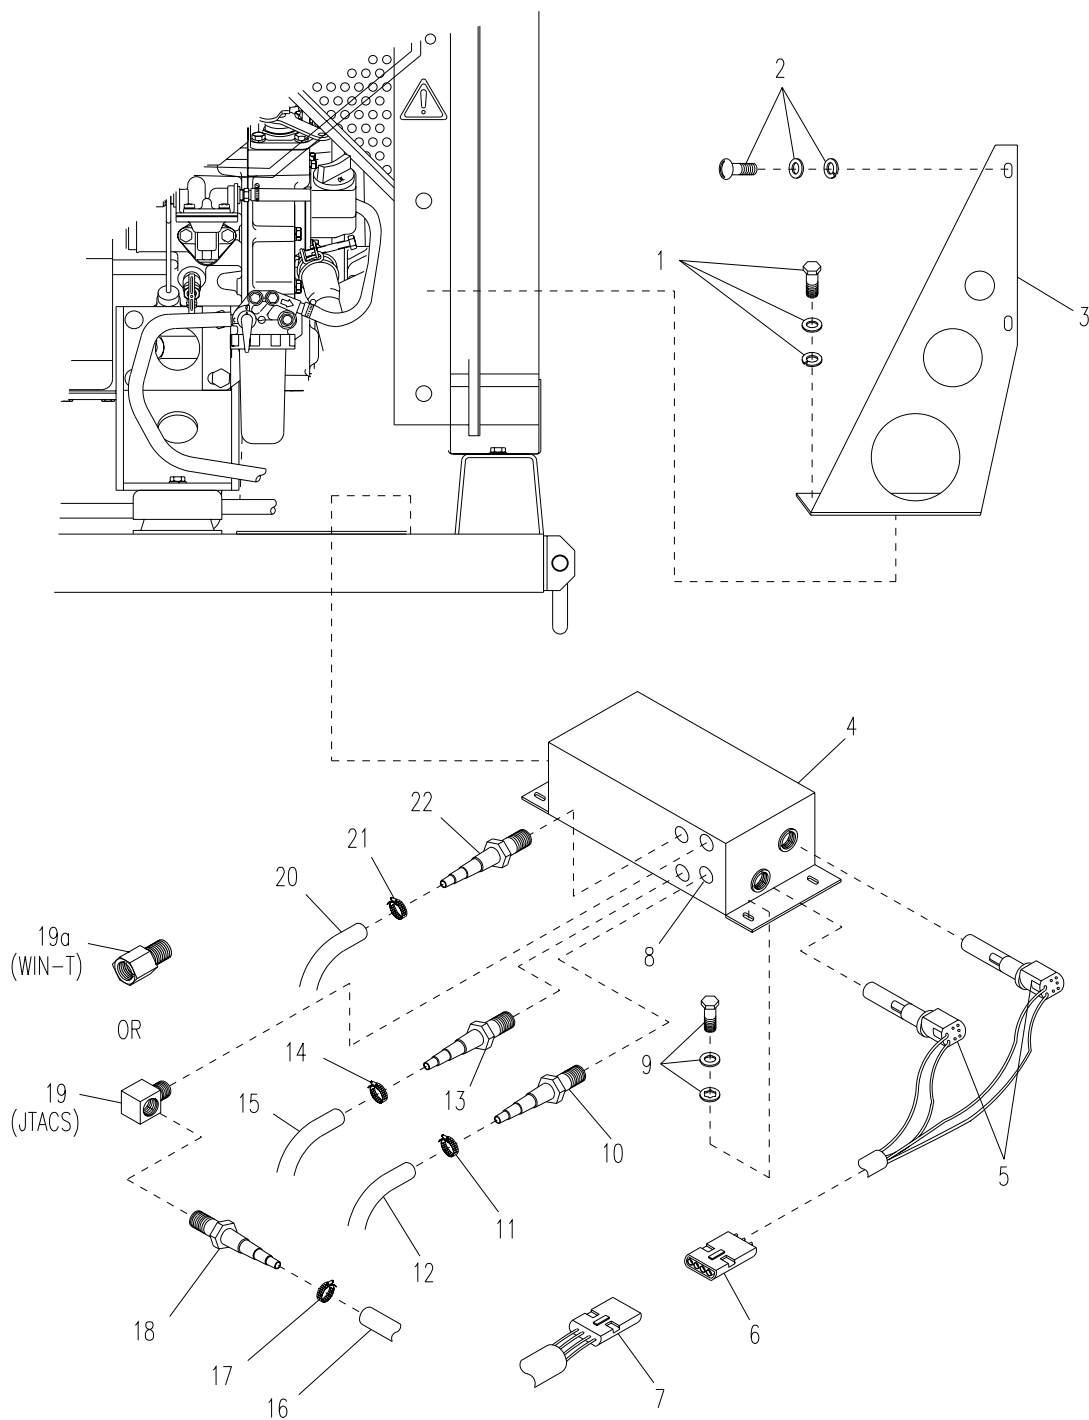

Figure 4-19. Fuel Day Tank Assembly (JTACS and WIN-T)
- b. Refer to Figure FO-1 (WIN-T) or FO-7 (JTACS) and tag and disconnect connector J7 (6, Figure 4-19) from engine wiring harness connector P7 (7).
- c. Connect multimeter leads on pins C and D at connector J7 (6). There should be continuity.
- d. Siphon fuel from overflow container into fuel day tank (4) through fuel intake hole (8). When sufficient fuel has been added, the closed lower switch will open and no continuity will be observed. Stop siphoning.
- c. Refer to Figure FO-1 (WIN-T) or FO-7 (JTACS) and disconnect connector J7 (6, Figure 4-19) from connector P7 (7).
- a. Remove two bolts and lock and flat washers (1, Figure 4-19), and two screws and flat and lock washers (2), and remove radiator support bracket (3).
- b. Loosen clamp (11) and remove line (12) between fuel pump assembly and fuel day tank assembly (4) from fitting (10) at fuel intake hole (8).
- c. Remove fitting (10) from fuel intake hole (8).
- d. Route hand siphon through fuel intake hole (8) into fuel day tank (4) and route other end of line into an overflow container.
- e. Siphon fuel out of fuel day tank (4).
- f. Disconnect connector J7 (6) from connector P7 (7).
- g. Remove fuel lines from fuel day tank assembly (4). Proceed as follows:
- (1) Loosen clamp (11) and remove transfer pump line (12) from fitting (10).
- (2) Loosen clamp (14) and remove fuel filter line (15) from fitting (13).
- (3) Loosen clamp (21) and remove overflow line (20) from fitting (22).
- (4) Loosen clamp (17) and remove vehicle return line (16) from fitting (18).